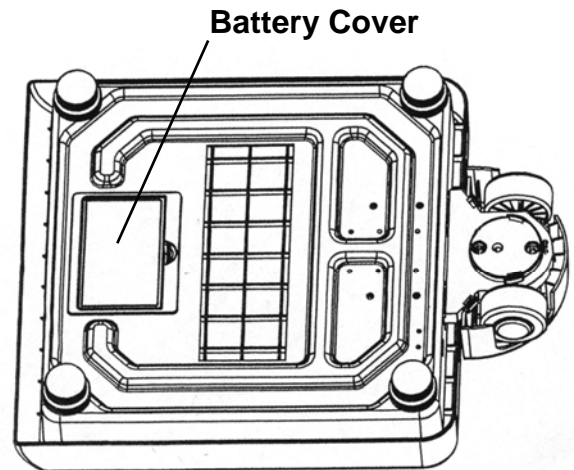

Figure No. 26
1. Referring to Figure No. 26, locate the rectangular battery cover on the bottom of the scale.